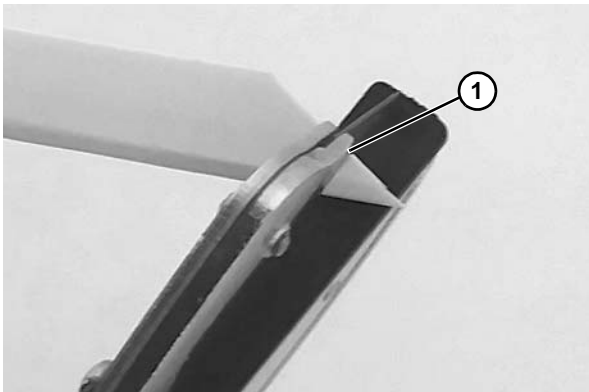

Figure 34
- Cut both slide rail ends at a 35° angle. The beginning of a new slide rail (in the direction of travel) must cut back at a small angle (**Figure 34, item 1**).